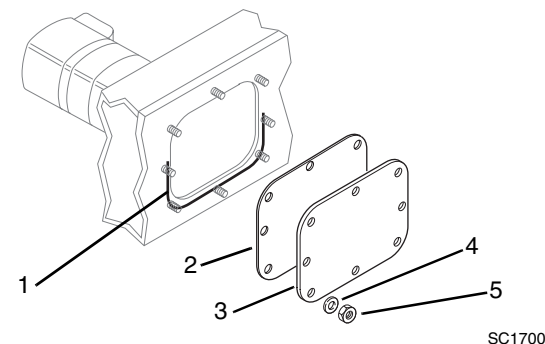

Figure 9-87 Access Cover Installation
32. Clean any sealer residue from the lower part of the access cover opening (Fig. 9-87, 1). Apply a new 1/8" bead of sealant (1) such as Permatex 2 RTV around the lower half of the opening.
33. Reassemble the cover gasket (Fig. 9-87, 2) and cover (3) to the side of the chain case using the lock washers (4) and new hex locknuts (5). Torque the eight locknuts to 14 lb/ft (19 Nm) to complete the inspection procedure.